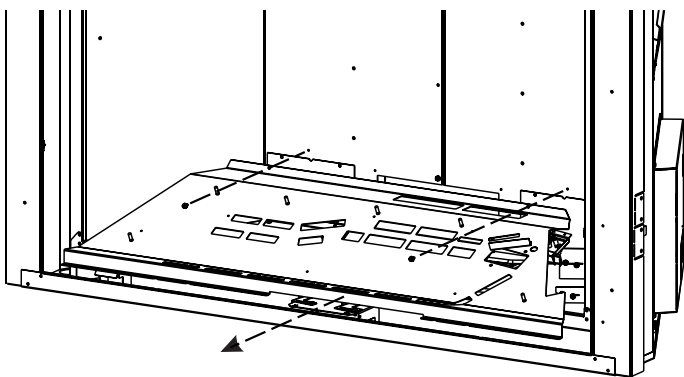

Figure 4
4. Remove (2) screws holding pilot assembly to burner pan. This will allow pilot assembly to drop.
5. Remove (2) screws holding burner base in place. Lift burner base out of firebox. See Figure 4.